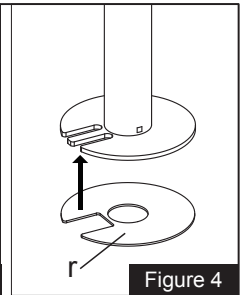

Figure 4
2. Attach Soft Pad(r) to the Grommet Base Plate(k), see Figure 4.